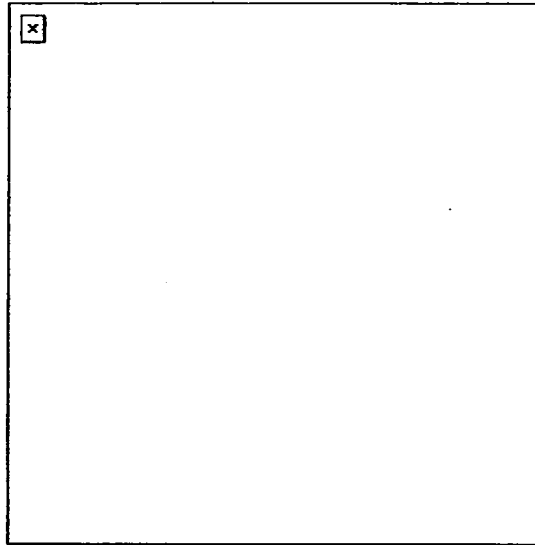

Figure 2. Moving from cover to cover.
- d. Move from position to position without masking covering fires. When the next position is reached, be prepared to cover the movement of other members of the fire team or squad (Figure 2).